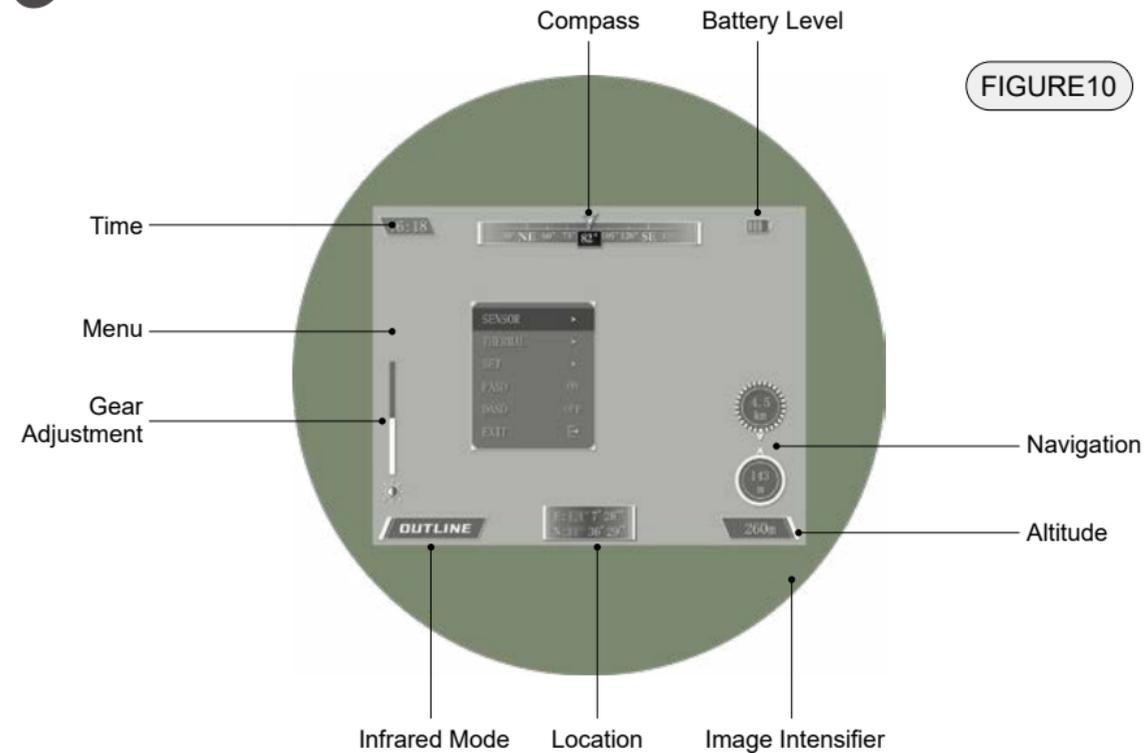

FIGURE 10
- **Infrared Mode** : Switch between Thermal mode and outline mode as shown in Figure 10